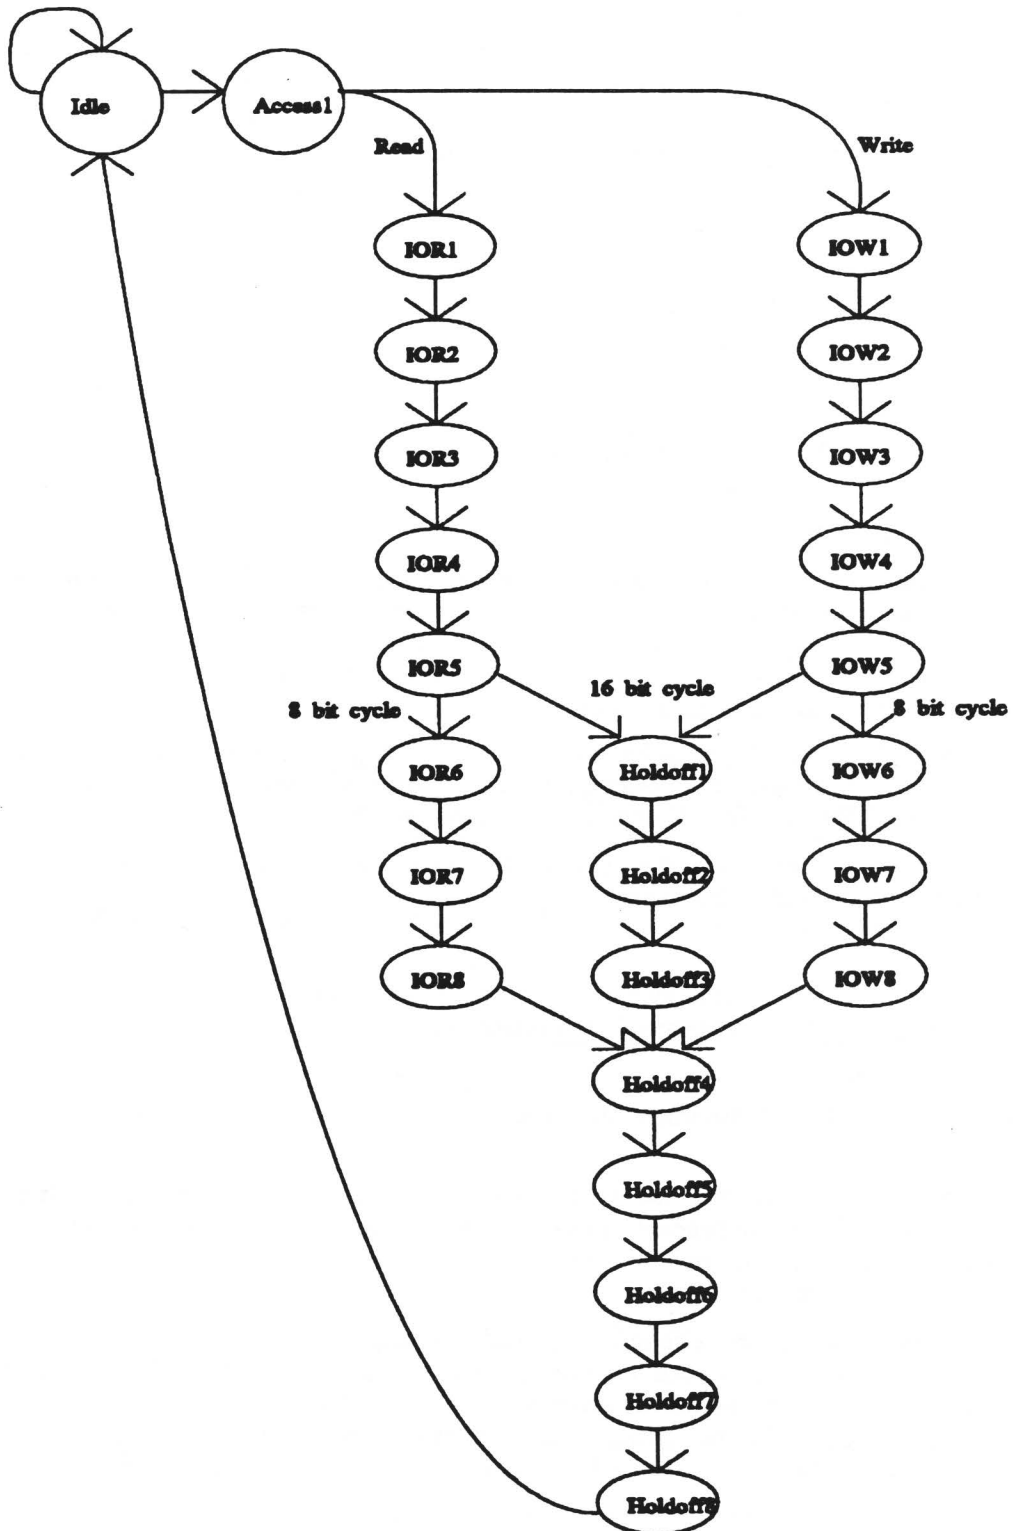

Figure 6-2. State Machine
The IDE (AT) hard drive requires two mutually exclusive chip selects. Refer to the following tables for address range in which each is active. The state machine shown in Figure 6-2 is used for IDE accesses. Note that consecutive accesses cannot be performed nearly as fast as a single access. This would suggest that the optimum algorithm for access of IDE data would consist of single accesses of IDE data interleaved with single accesses of the target/source data buffer.